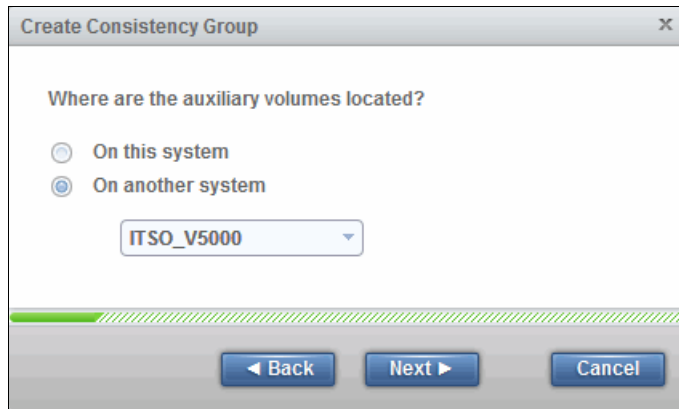

Figure 10-122 Remote Copy consistency group auxiliary volume location window
3. You are prompted for the location of auxiliary volumes, as shown in Figure 10-122. In this example, these volumes are on another system. Select the relevant option and, from the drop-down menu, select the correct remote system. In this example, there is only one remote system defined. Click **Next** to continue.